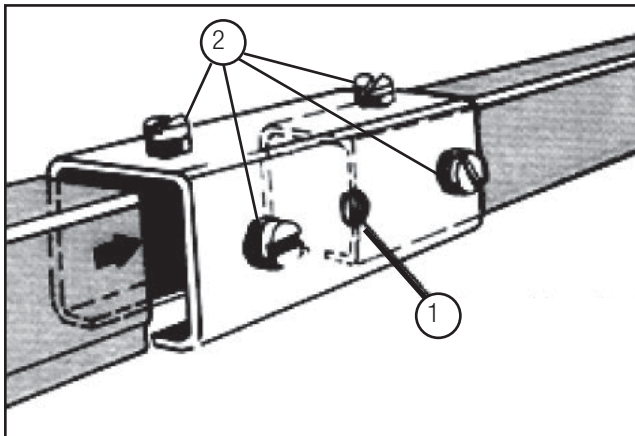

Figure 7-4
1. Track joints clamp for secure attachment and proper alignment of track section. Each kit includes four set screws and nuts. See **Figure 7-4**.